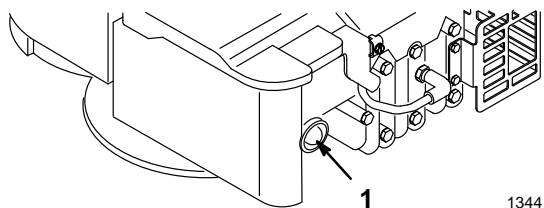

Figure 9
2. Push the primer three times, waiting two seconds between each push (Fig. 9).